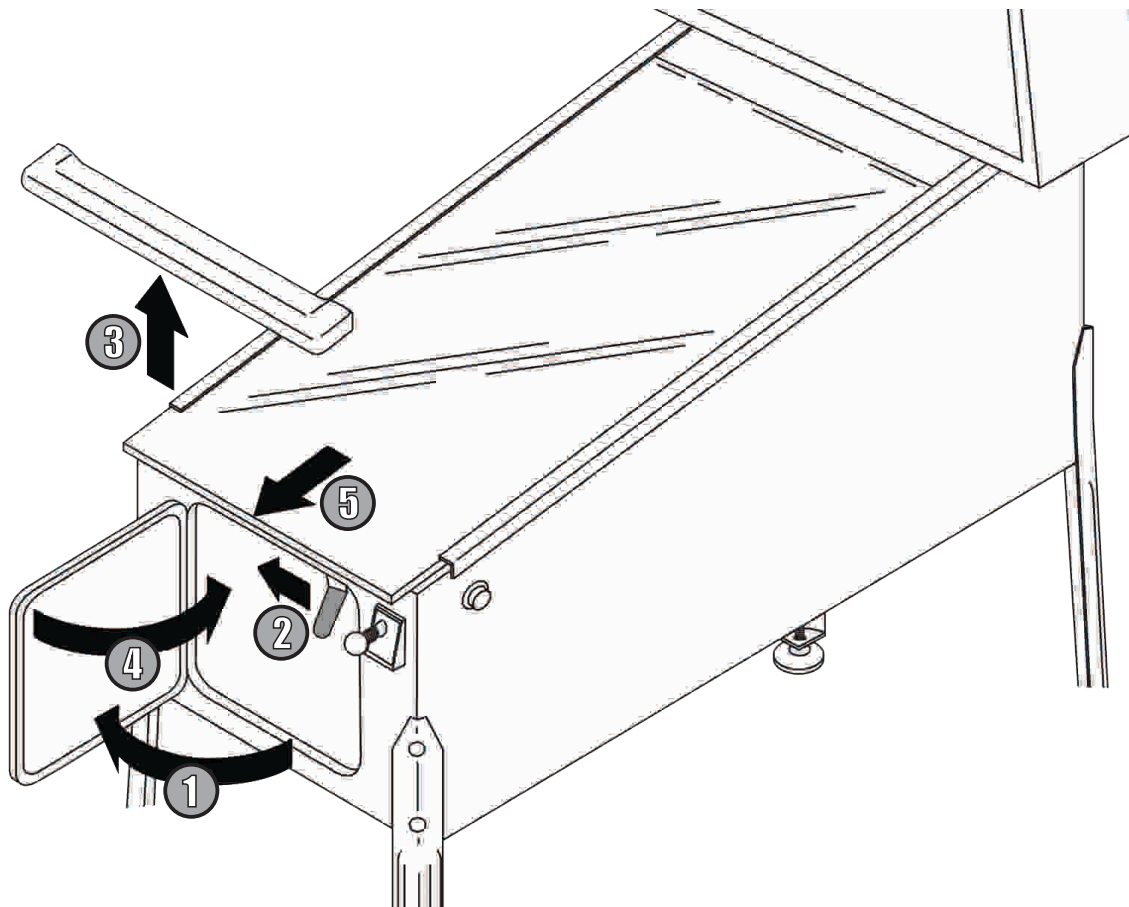

Fig. 8 Removing the playfield glass
- ① Open the coin door
- ② Slide the yellow lockdown bar lever to the left
- ③ Lift the lockdown bar straight up and out
- ④ **IMPORTANT:** Close and lock the coin door
- ⑤ Slide playfield glass off of the front of the cabinet (Fig. 8)
- ⑥ **IMPORTANT:** Tempered glass is known to shatter when placed on hard surface